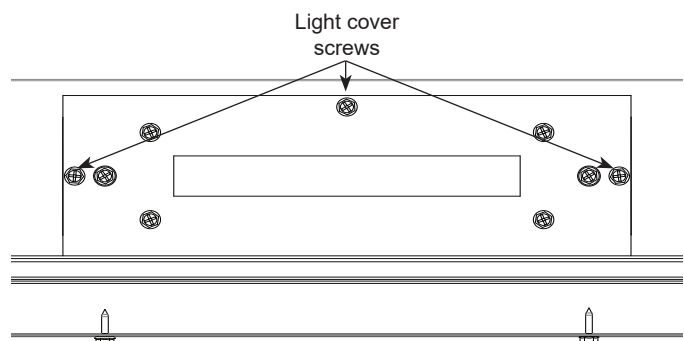

Figure 35. Top Light Screws
1. Remove three screws holding light cover in place (as shown in Figure 35.)
2. Insert (1) 100W bulb provided into socket.